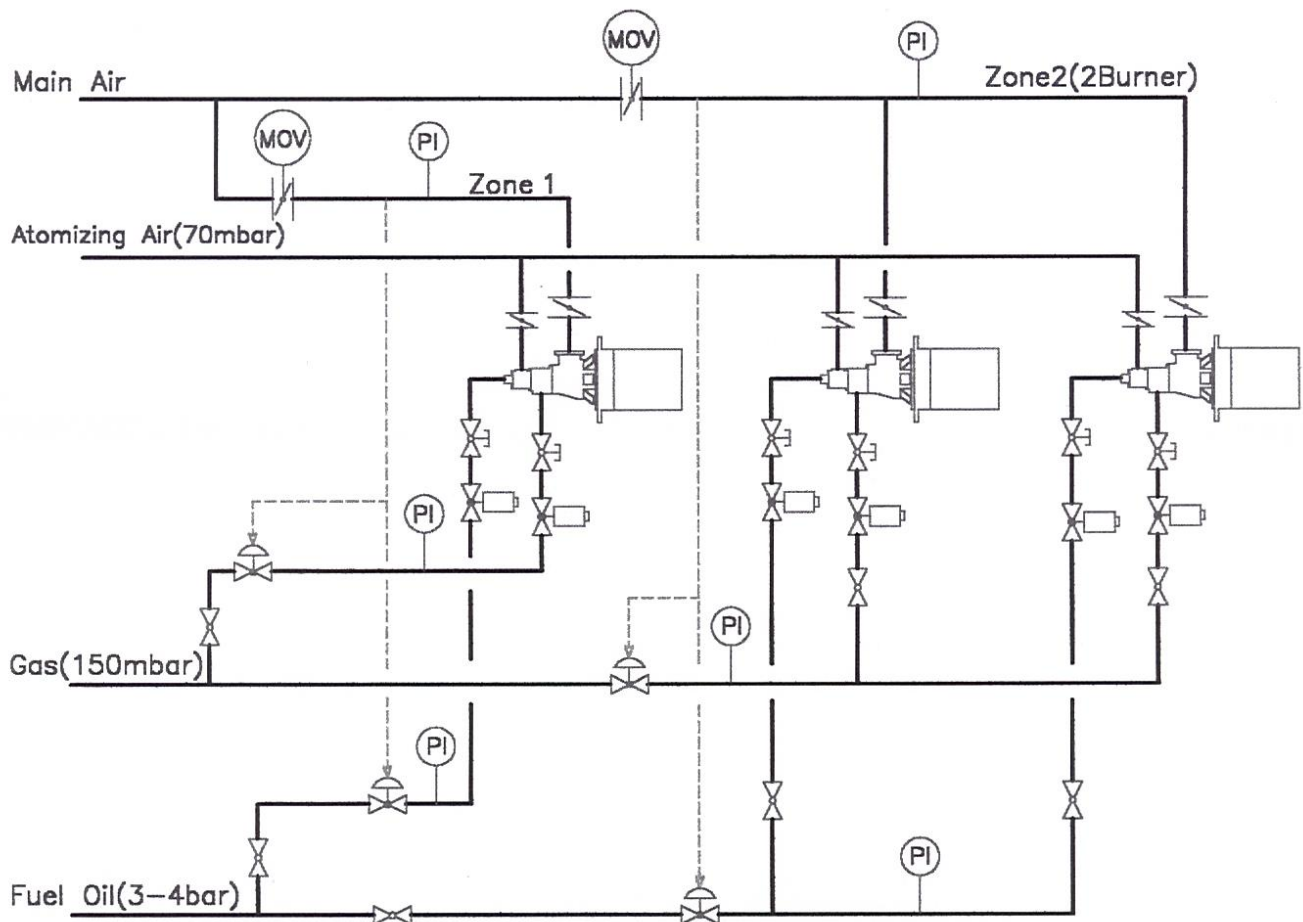

Fig 1 Suggested Piping Arrangement for HGO Burner
- b) Pipe air and fuel lines in a manner similar to that shown in Figure 1 . Flexible connections are recommended in air and fuel lines to minimize strain from piping and thermal expansion .
- d) Connect impulse piping as shown in Figure 1 . These piping arrangements are designed to keep air and gas flows on desired ratio at all firing rates .